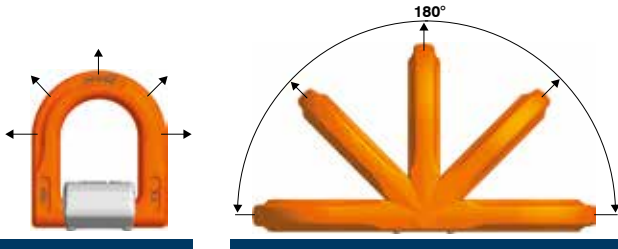

Fig. 1: Permissible pull directions that occur when used correctly.
- Loading must always take place in the stated direction (fig. 1 under section 2 of this manual), with the maximum load capacity according to table 1 and taking into consideration the operating conditions stated in section 2.
**Load:** Loading must always take place in the stated direction (fig. 1) with the maximum load capacity according to table 1 and taking into consideration the operating conditions as specified here.
- The pull direction is not in the specified area acc. to fig. 1.